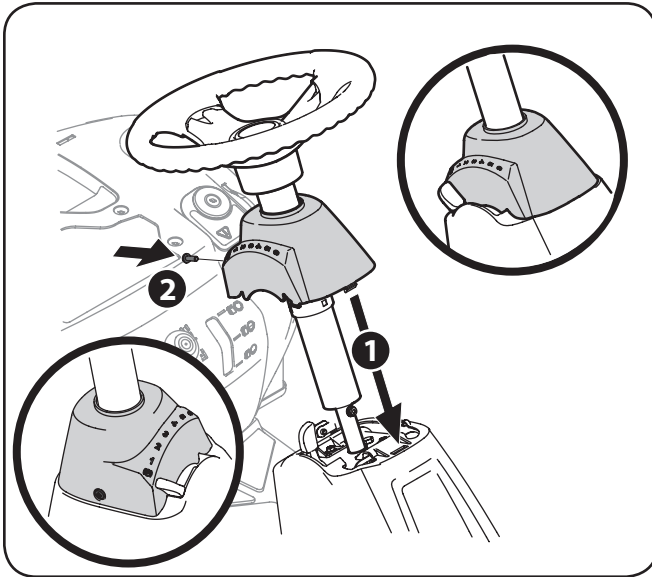

Figure 3-3
7. Slide the pedestal cap down onto the tractor (1) and slightly rotate to the right to clip into place. Secure the pedestal with the screw (2) previously removed. See Figure 3-3.